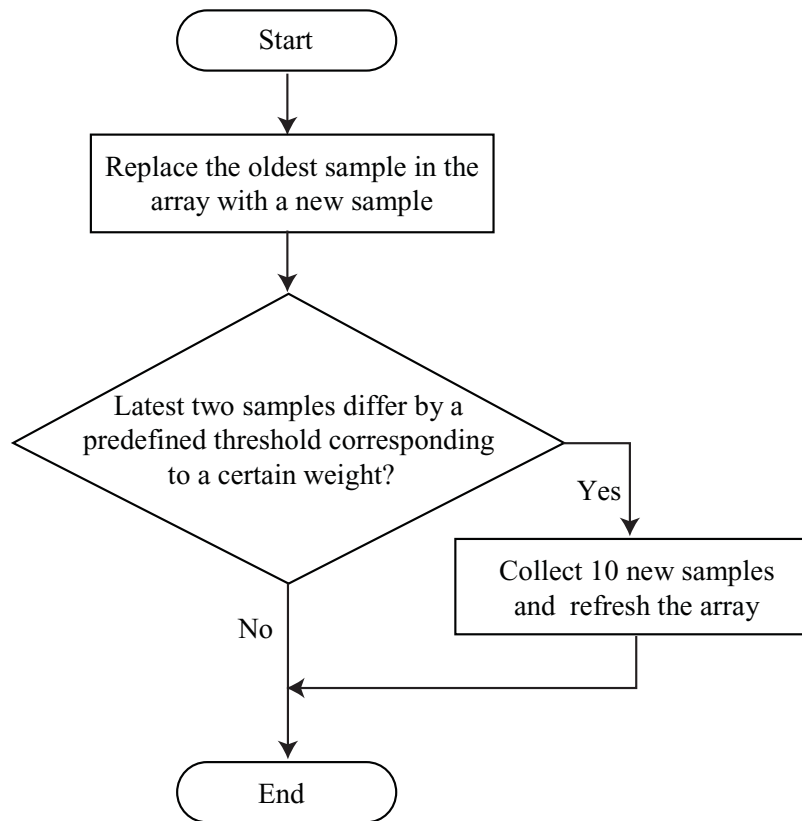

Figure 5. ADC Sample Collection and Change in Weight Detection Routine
- ADC Sample Collection and Change in Weight Detection Routine (Figure 5)